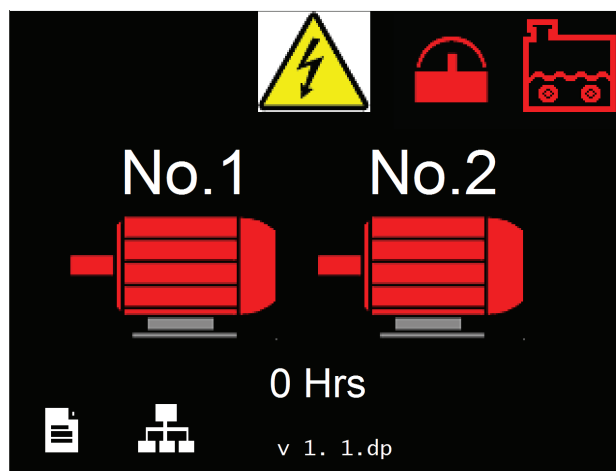

Figure 7.24 - Motor 1 and 2 Fault
5. If a motor goes to Fault condition the motor symbol will change to red, Ref: Figure 7.24.